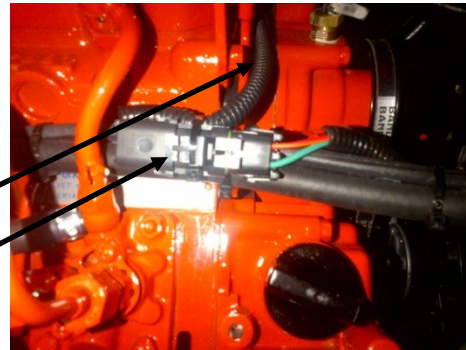

Figure 4
- 6- Install speed sensor (red with orange striped) wire on right side of alternator connector and battery (red) wire on left side of the connector. (Figure 4)
- 10- Route speed sensor wire (red with orange stripe) in supplied loom around engine to where the original speed sensor was connector and connect to harness. (Figure 4)